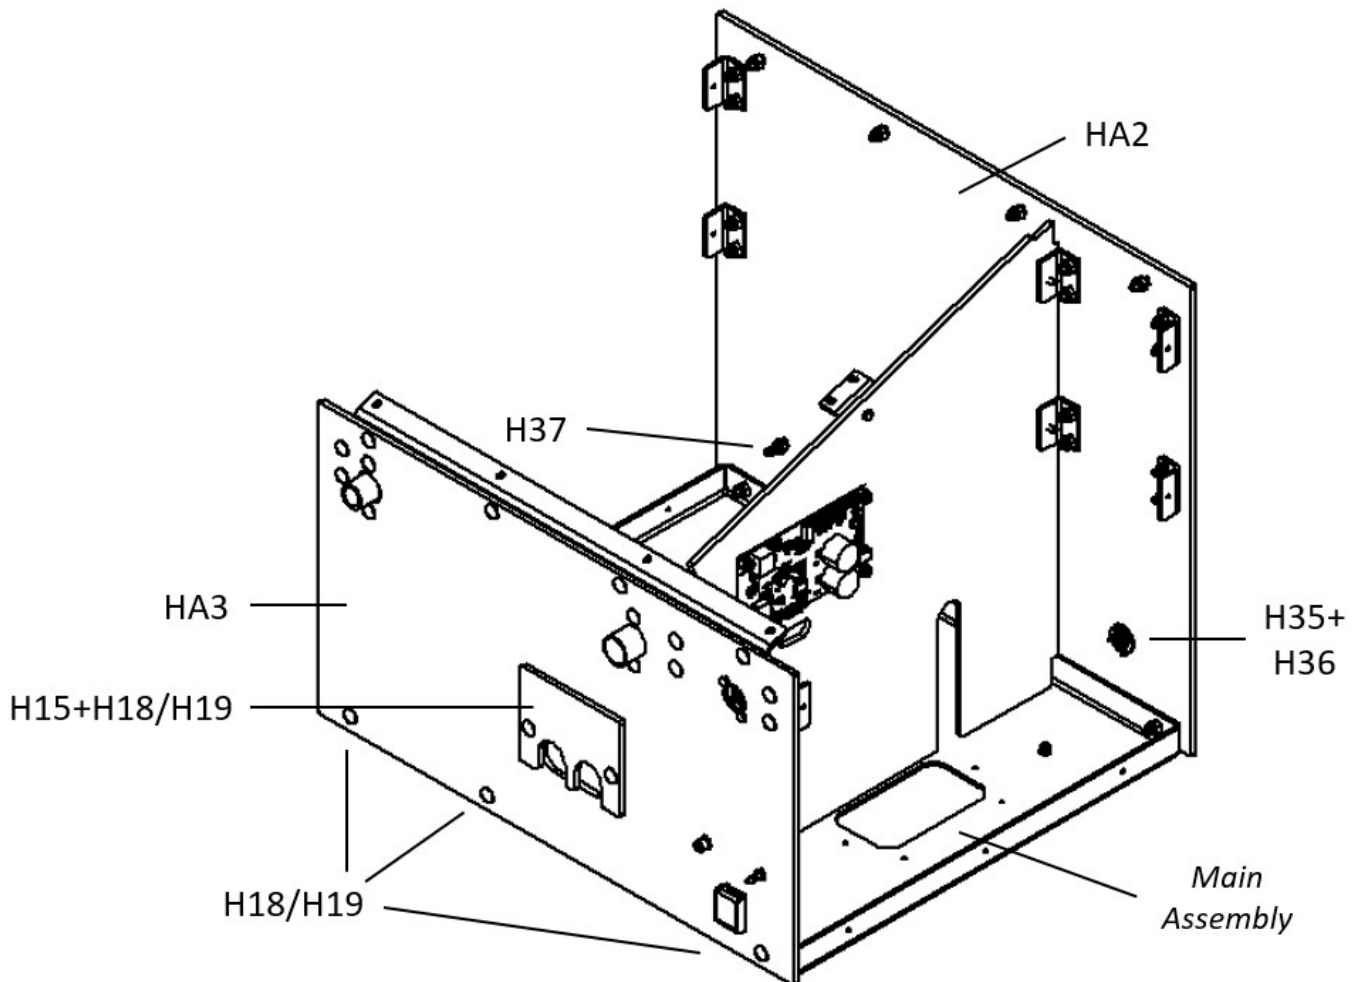

Figure 14: Mount Front and Back Plate Assembly to Main Assembly
2. Connect the HA3 Front Plate Assembly to the Frame with 3 H18 Carriage Bolts and H19 Nuts as depicted in figure 14.
4. Bolt the H15 Front Sensor Cover with 2x H18 Carriage Bolts and H19 Nuts on the H10 Front Plate as shown in figure 14